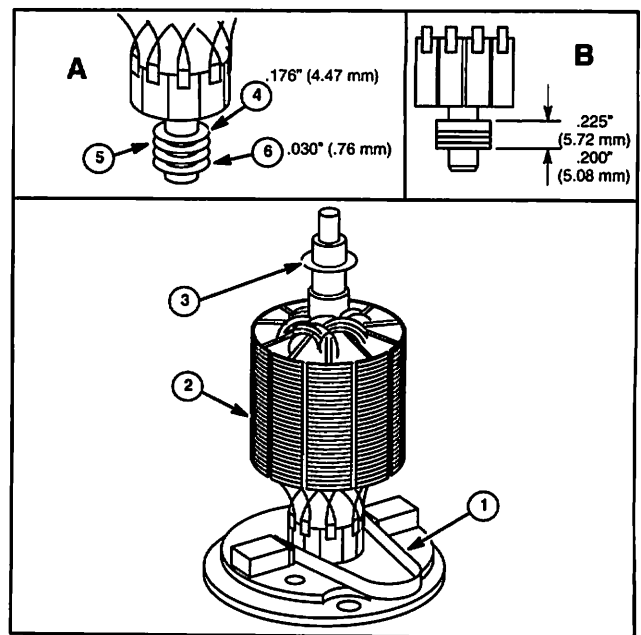

Fig. 37
Assemble Starter Motor – Armature to End Cap Assembly, Fig. 37
1. Insert brush springs and brushes in holders as far as possible, and hold them in position with brush retainers (1), Fig. 37.
2. Place thrust washers on armature shaft in sequence shown, Inset "A": felt washer (4), steel washer (6), and add gray plastic washers (5) to obtain dimension shown in Fig. 37, Inset "B" (System 3®, 4®).
3. Using care to ensure brushes clear commutator, slide armature shaft into end cap bearing, Fig. 37.
9. If necessary, install or remove gray plastic washers between armature and end head to adjust end play for .005" (.13 mm) to .025" (.64 mm) armature movement (System 3®, 4®), Fig. 37.